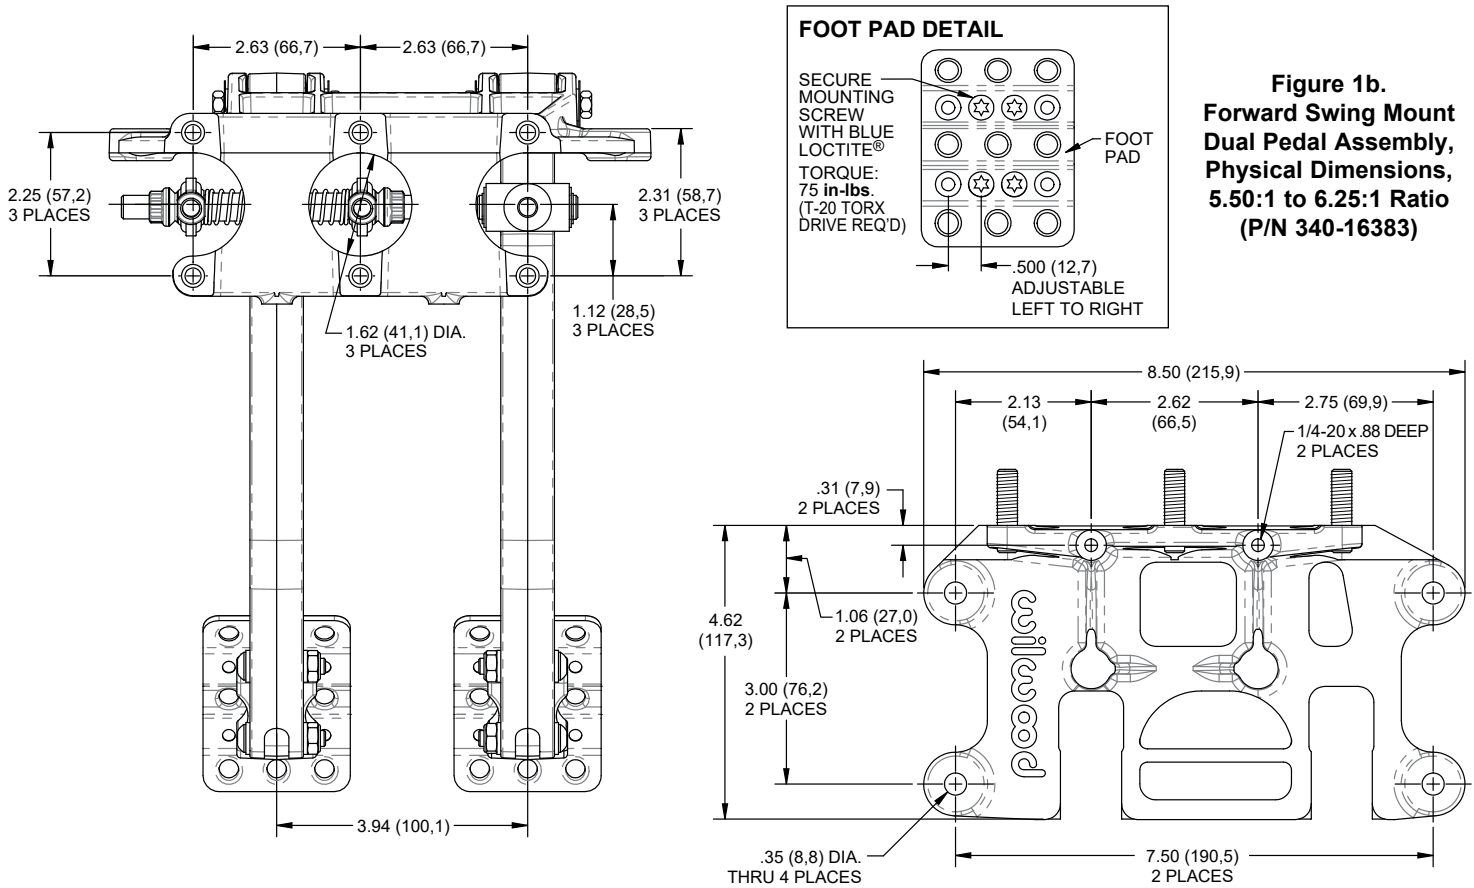
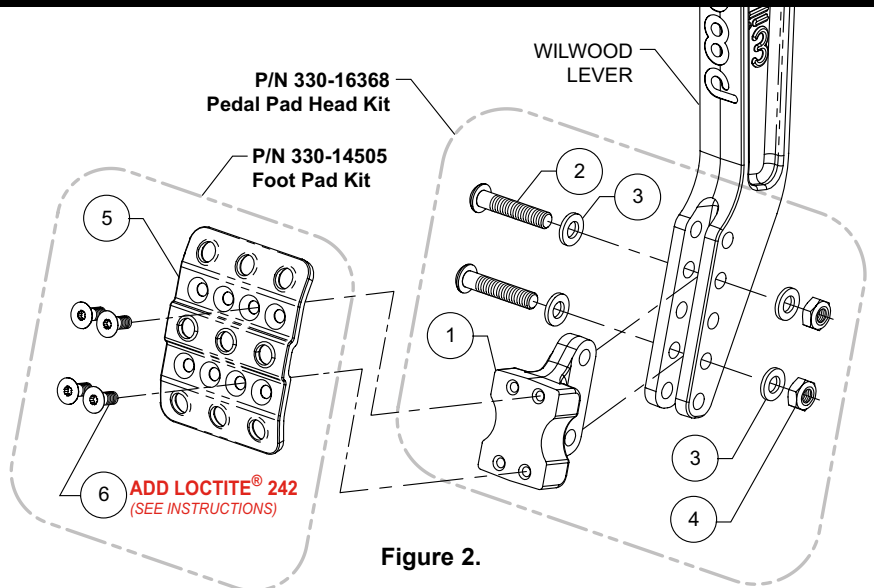

Figure 1b.
Figure 2.
•Install the pedal pad head (1) into the “fork” of the pedal arm in the desired location as shown in Figure 2. Secure in place using bolts (2), washers (3), and locknuts (4).
•Torque locknuts (4) to 120 in-lbs.
•Orient foot pad (5) as shown in Figure 2. Pad may be installed in three different positions as shown in Foot Pad Detail of Figure 1b. Secure to pedal head (1) using four T-20 drive Torx screws (6). Apply blue *Loctite*® 242 to the threads and torque screws to 75 in-lbs.